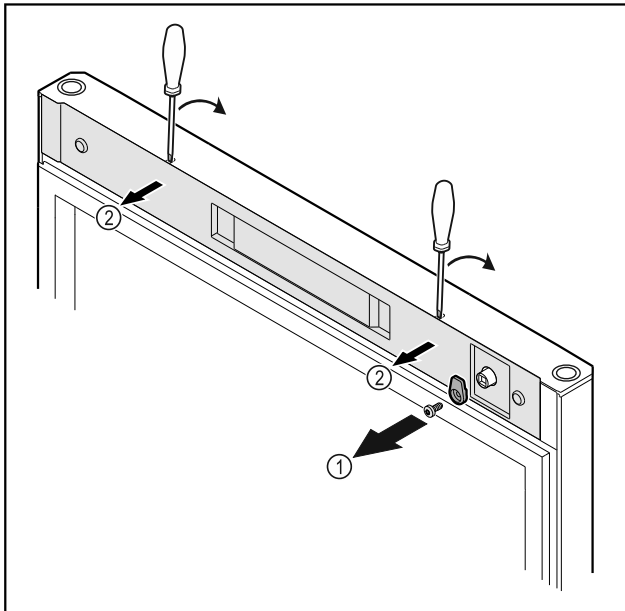

Fig. 20
- ▶ Unscrew the door latch Fig. 20 (1).
- ▶ Unlatch the cover Fig. 20 (1) with a small screwdriver and remove it.